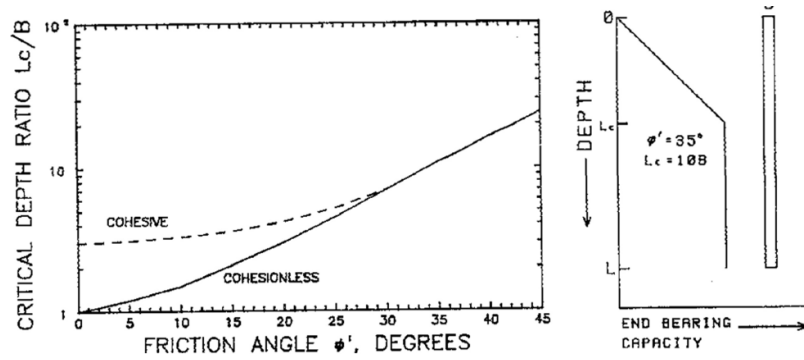

Figure 5-3. Critical depth ratio L_c/B (Data from Meyerhof 1976)
**Calculation Note:** Effective vertical stress becomes constant after a **critical depth (Lc)**. Refer to the critical depth ratio (Lc/B) in Figure 5-3 to prevent overestimating capacity at extreme depths.